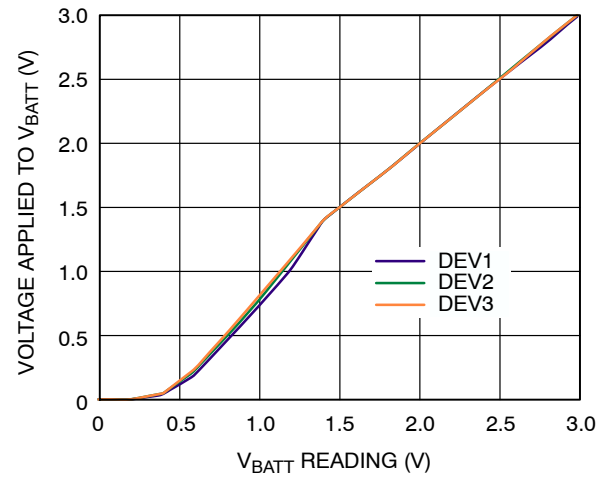

Figure 16. Applied Voltage vs.  $V_{BATT}$  Reading
4. Note that this specification does not apply if Pin 26 ( $V_{BATT} + 1.2\text{V}$ ) is being measured in single-channel mode. See Figure 16 in the Typical Performance Characteristics section for  $V_{BATT}$  accuracy.